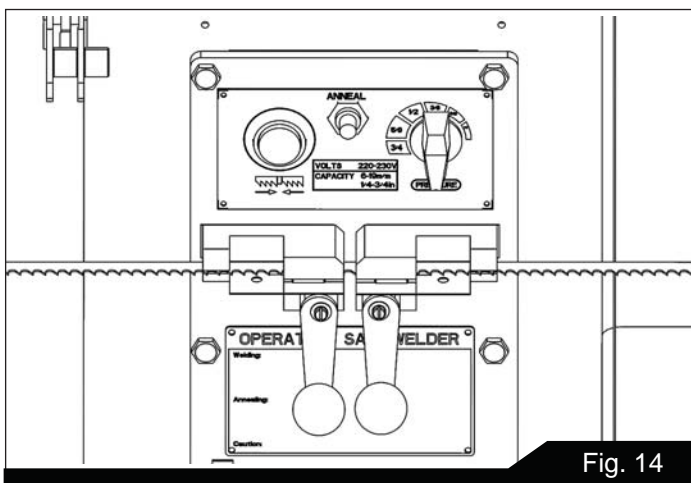

Fig. 14
**IMPORTANT:** If a blade has been cut by using snips, the ends of the blade must be ground square before welding them together, as shown in Figure 14.
3. Turn pressure knob (Figure 14) to "0" position (pointed downward).
- Press and hold weld button (Figure 14). When weld button is pushed, the left clamp moves to the right to apply pressure to the blade ends. Simultaneously, sparks will be emitted from the blade ends as they are being welded. Do not release weld button until blade joint is "red hot."
- Quickly press and release ("jog") the anneal button (Figure 14). Repeat jog process until you see a slightly red glow from weld area.